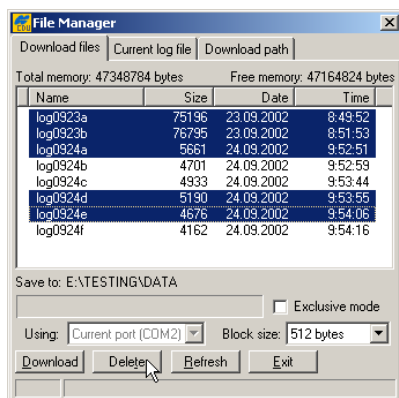

Figure 4-7. Delete Files
3. Click **File ► File Manager** and select the file(s) to delete on the *Download files* tab (Figure 4-7).
4. Click **Delete** (Figure 4-7 on page 4-13).